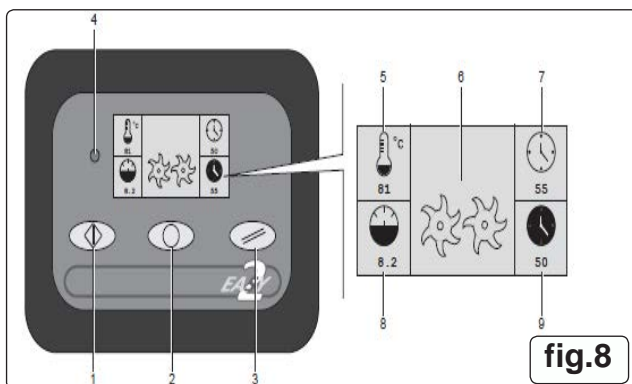

fig.8
6.2. When the compressor is connected to power supply the display shows initial screen shot (see fig.8) By pushing the
6.3.1. The control panel contains a set of buttons that are used for the main operational and control functions of the compressor. A graphic display uses symbols to indicate the state of the machine (see figs. 8, 9, 10, 11, 12, 13, 14 below).
6.3.1.1. Air-end delivery temperature (5) (fig.8) - Possible alarms. The display shows temperature in °C or °F depending on setting.